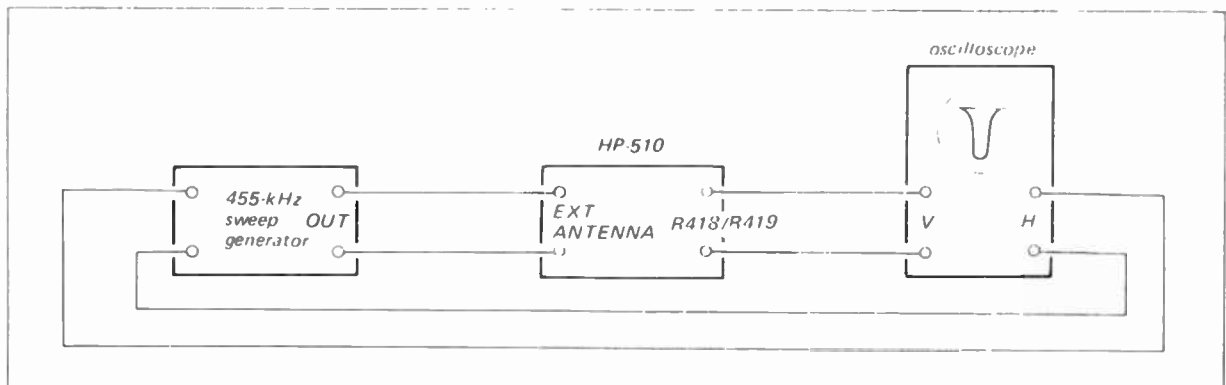

Fig. 3-13. A-m i-f alignment by sweep generator test setup
4. With the equipment connected as shown in Fig. 3-13, adjust the oscilloscope controls and generator output to provide a visible indication.